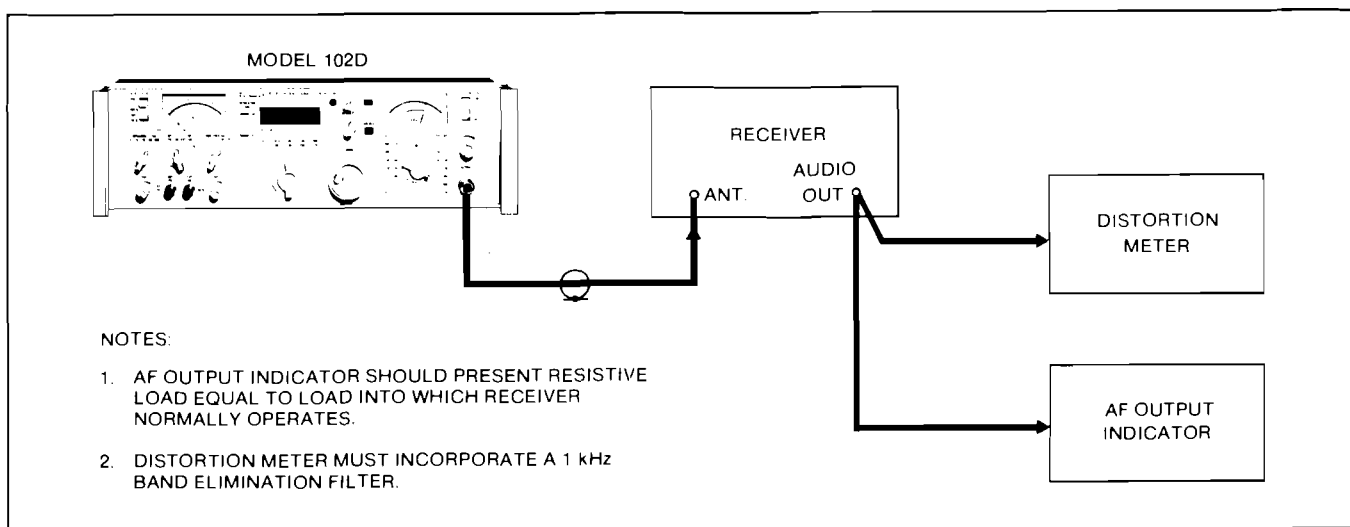

Figure 2-15 EAI Sensitivity Check, Typical Equipment Connection
**2-34. EIA Sensitivity Measurement.** The Model 102D qualifies in every respect as a standard input signal source for EIA receiver sensitivity measurements. A typical equipment arrangement for such an application is shown in Figure 2-15. Measurement of the minimum usable sensitivity of land-mobile FM communications receivers involves the following steps:
- a. The equipment is connected as shown in Figure 2-15.